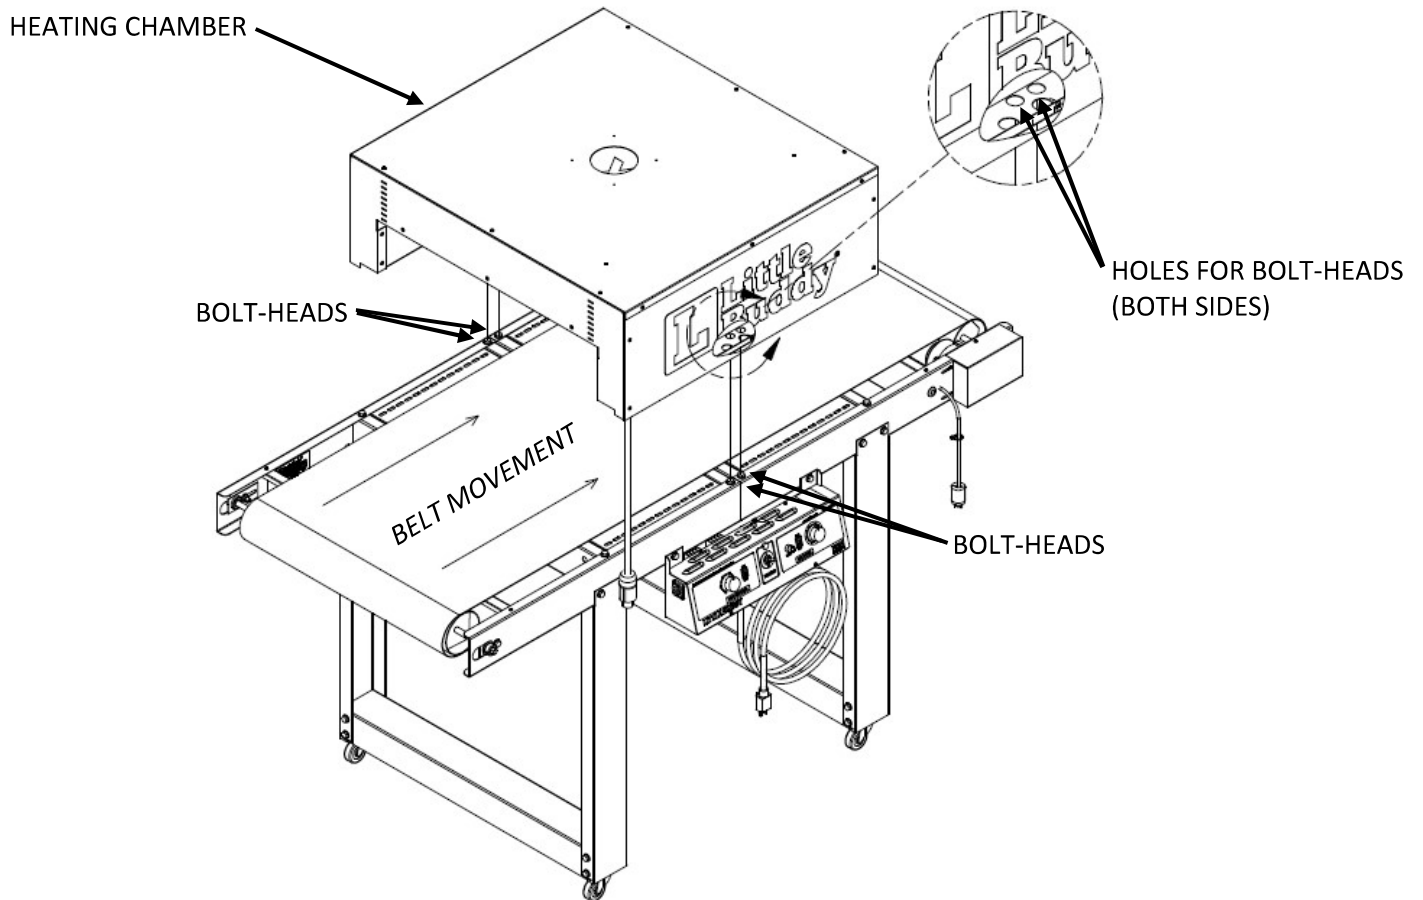

Figure 7
1. Using two people, set the **HEATING CHAMBER** onto the **CONVEYOR** (see **Figure 7**). The **HEATING CHAMBER CORD** must be on the same side of the **CONVEYOR** as the **CONTROL PANEL**.
2. The **HEATING CHAMBER** has **HOLES** on the underside rails that fit over the **BOLT-HEADS** (see Magnified View, **Figure 7**). The **CHAMBER** should rest flatly on the **CONVEYOR**.